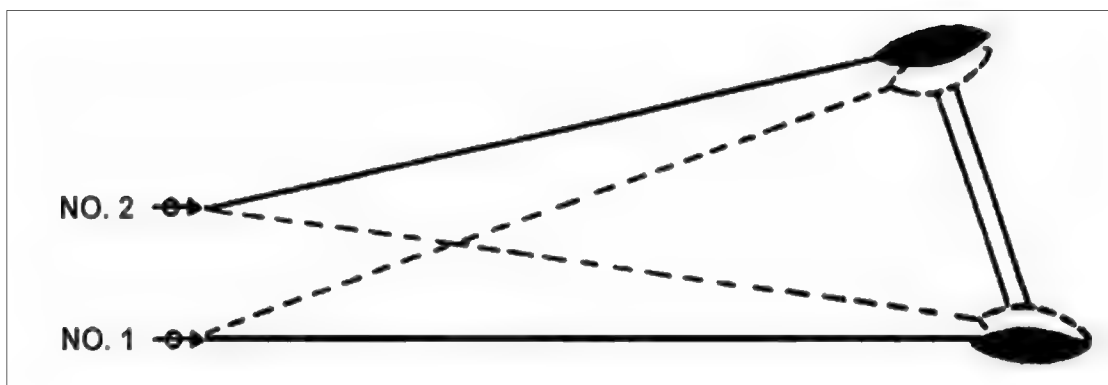

Figure 5-19. Two MK 19s, linear target with depth.
(2) **Two MK 19s, Flanks Visible.** Gunners use the same method as for engagement of a deep linear target: they must search to keep the center of impact on the target. The leader determines the range for the initial fire command the same as for a deep target (Figure 5-19).